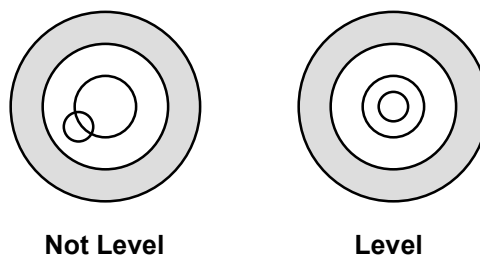

Figure 2-2: Leveling the Scale Base
- Check the level that is located on the top of the scale base. Adjust the leveling feet until the bubble on the level is centered (see Figure 2-2).